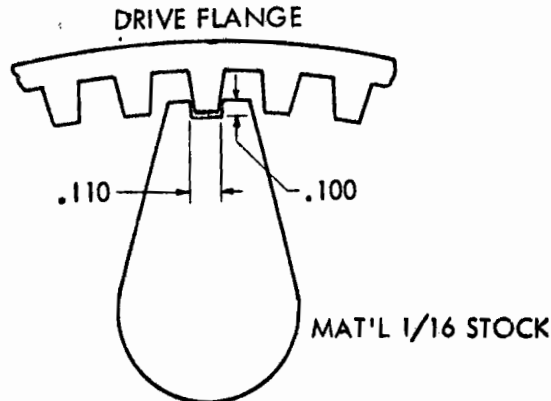

Figure 3 Gauge for Checking Disc Drive Tooth Wear
- c. Inspect to disc drive teeth of the wheel half for damage or wear. If any are worn to a thickness of .110-inch from the top of the tooth, replace the wheel half. A gauge can be fabricated to check tooth dimensions accurately. (See Figure 3)
- e. Bearing cones (2) after washing thoroughly in dry cleaning fluid, are inspected for damage or wear and then coated with clean bearing grease when re-installed in their cups (7 and 12).
- f. Bearing seals (1) should be checked for serviceability.